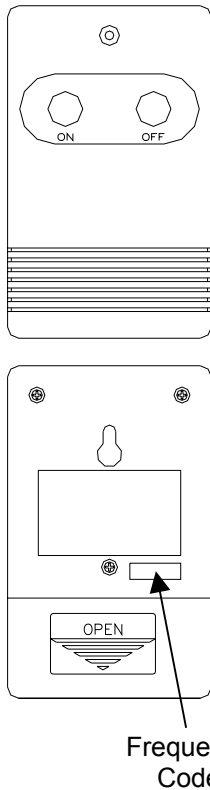

FIGURE 3
The corner wall mounted electric fireplace is supplied with a radio frequency remote control. This remote control has a range of approximately 50 feet (15.25m), it does not have to be pointed at the fireplace and can pass through most obstacles (including walls). It is supplied with one of 243 independent frequencies to prevent interference with other units. The frequency designation is indicated on the back of the transmitter (FIGURE 3).
5. Press the ON button located on the remote control transmitter (FIGURE 3). This will synchronize the remote control transmitter and receiver.